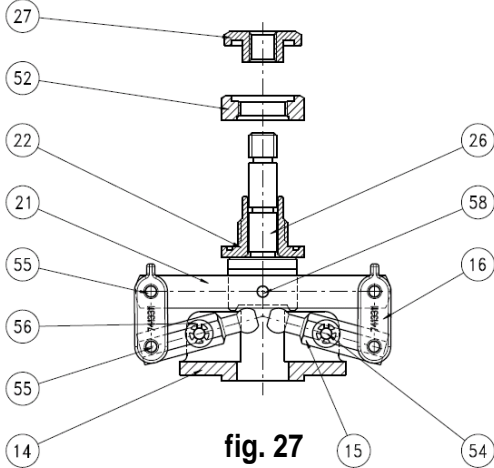

fig. 27
- 5) Loosen the nut (27)(fig.27) and remove the spring (42)(fig.24-25).
- 6) Unscrew the ring nut (52)(fig 27) to remove the protection disc (20) and diaphragm (19)(fig24-25) from the diaphragm support (22)(fig27).